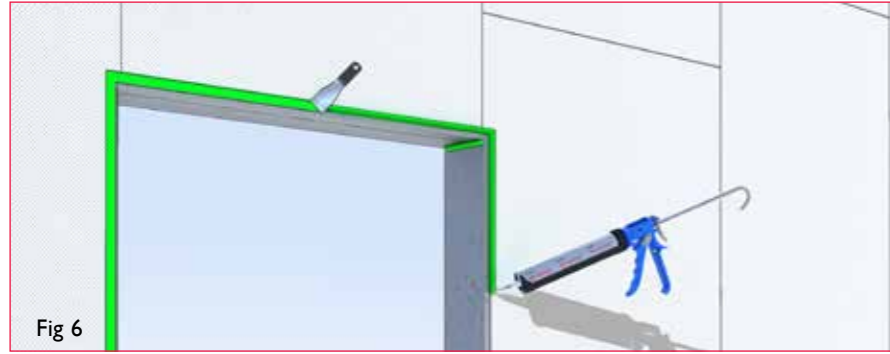

Fig 6
2. Fill remaining joints, gaps and cracks <6mm with Wraptite LF and smooth across the rough surface with a putty knife (Fig 6).